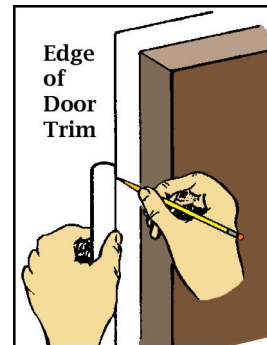

Figure 4
- **Step 6** Extend the fin lines 3” from the bottom of the tube, and extend the launch lug line to 5” from the bottom of the tube. Use the straight edge of a door trim as a guide, as shown in Fig. 4. Mark the lug line at 3” and 5” from the bottom of the tube.